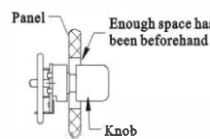

Figure 5 Prerent knob from scuffing panel
7. Sufficient fitting clearance should be arranged when calculating the diameter of the mounting hole prepared for the actual products may be different from that in this catalogue. knob in the panel. Too tight fitting together with deviation of knob center line and unsteadiness of the shaft handle will cause scraping and friction between the knob and the panel. (see figure 5)